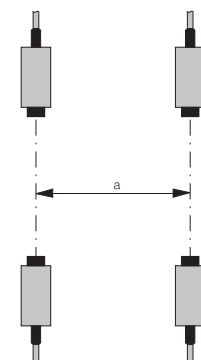

Fig. 18
**THROUGH-BEAM SENSORS (FIG. 18)**